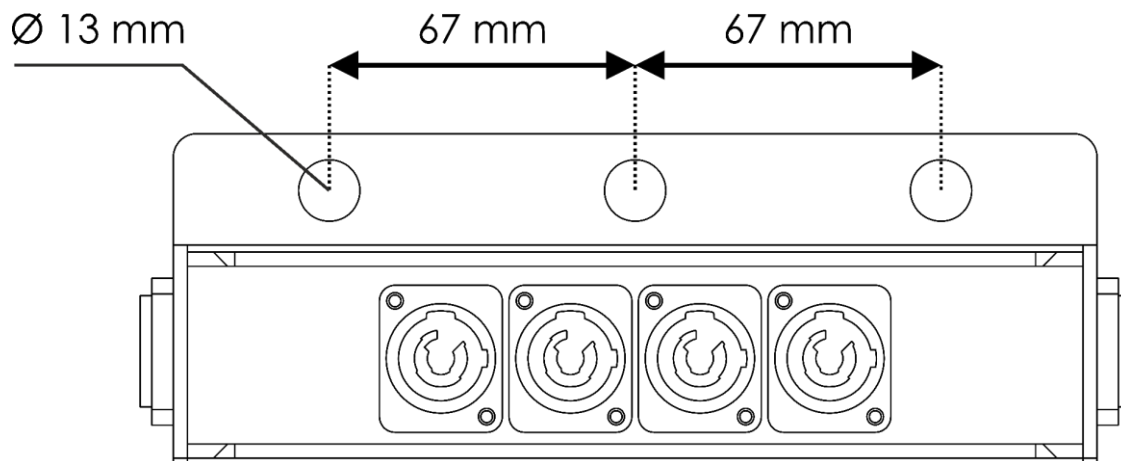

Fig. 04
- 01) Insert 3 screws into the **3 x mounting openings (02)** and tighten them to mount the device on a structure. See Fig. 04.